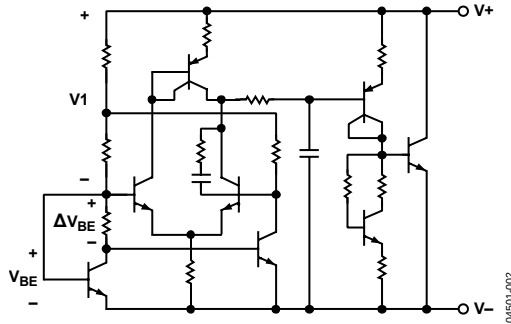

Figure 18. Circuit Schematic
The ADR520/ADR525/ADR530/ADR540/ADR550 use the band gap concept to produce a stable, low temperature coefficient voltage reference suitable for high accuracy data acquisition components and systems. The devices use the physical nature of a silicon transistor base-emitter voltage in the forward-biased operating region. All such transistors have approximately a $-2 \text{ mV}/^\circ\text{C}$ temperature coefficient (TC), making them unsuitable for direct use as low temperature coefficient references. Extrapolation of the temperature characteristic of any one of these devices to absolute zero (with the collector current proportional to the absolute temperature), however, reveals that its V_{BE} approaches approximately the silicon band gap voltage. Thus, if a voltage develops with an opposing temperature coefficient to sum the V_{BE} , a zero temperature coefficient reference results. The ADR520/ADR525/ADR530/ADR540/ADR550 circuit shown in Figure 18 provides such a compensating voltage (V_1) by driving two transistors at different current densities and amplifying the resultant V_{BE} difference (ΔV_{BE} , which has a positive temperature coefficient). The sum of V_{BE} and V_1 provides a stable voltage reference over temperature.